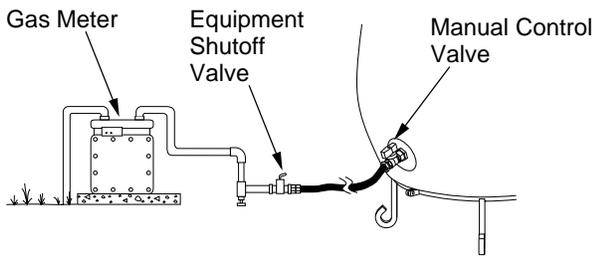
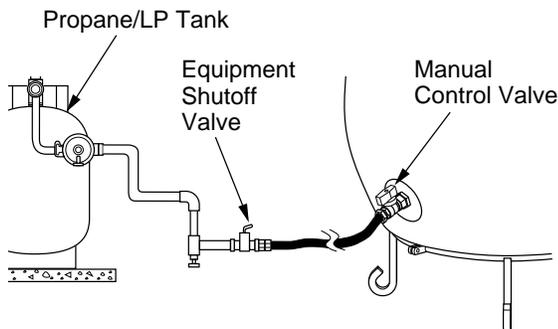

Figure 15 - Checking Gas Joints For Natural Gas
Figure 16 - Checking Gas Joints For Propane/LP Gas
4. Check all joints of gas supply piping system, for natural gas see Figure 15, page 10 or for propane/LP gas, see Figure 16, page 10. Apply commercial leak detection solution to gas joints. Bubbles forming show a leak.
3. Check all joints of gas supply piping system, for natural gas see Figure 15 or for propane/LP gas, see Figure 16. Apply commercial leak detection solution to gas joints. Bubbles forming show a leak.